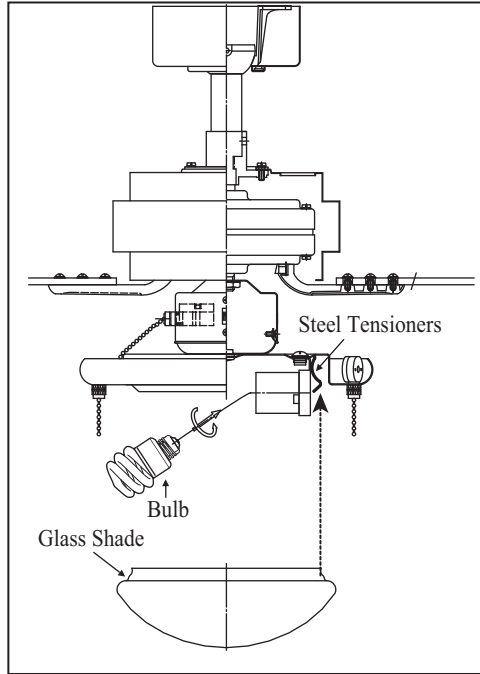

Figure 16
2. Gently slide the glass shade over the steel tensioners. Make sure the glass shade is fully inserted into the socket for a secure fit. (Fig. 16).